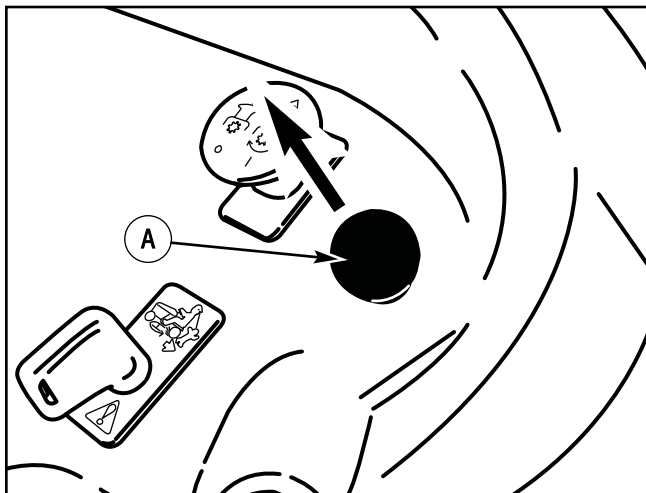

Figure 12: Cruise control
2. Pull up on the **cruise control knob** (Figure 12). Release the **speed control pedal**. The unit should continue traveling forward at the desired speed.